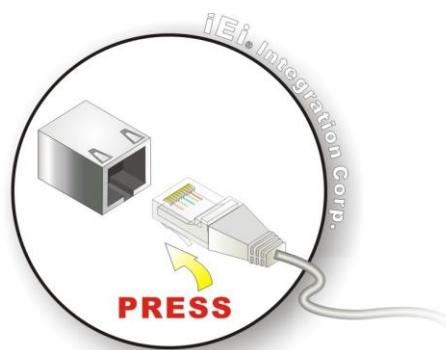

Figure 3-12: LAN Connection
Step 2: Align the connectors. Align the RJ-45 connector on the LAN cable with one of the RJ-45 connectors on the **TANGO-7010 Series**. (See Figure 3-12).